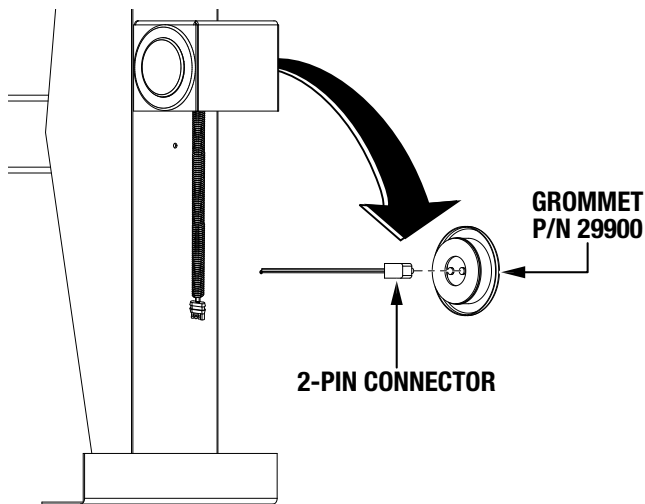

Figure 14. Side Marker Light Connection
- Each grommet (P/N 29900) includes a wire kit with a 2-pin connector on one end. Plug the 2-pin connectors into the back of the amber side marker lights (P/N 29898) as shown in Figure 14.